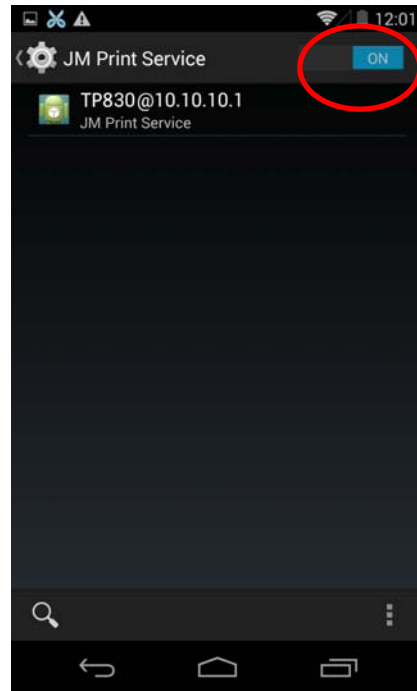

Figure 24
3.5 After turning on the “JM Print Service”, it will search automatically and show the printer if found, as shown in Figure 24.